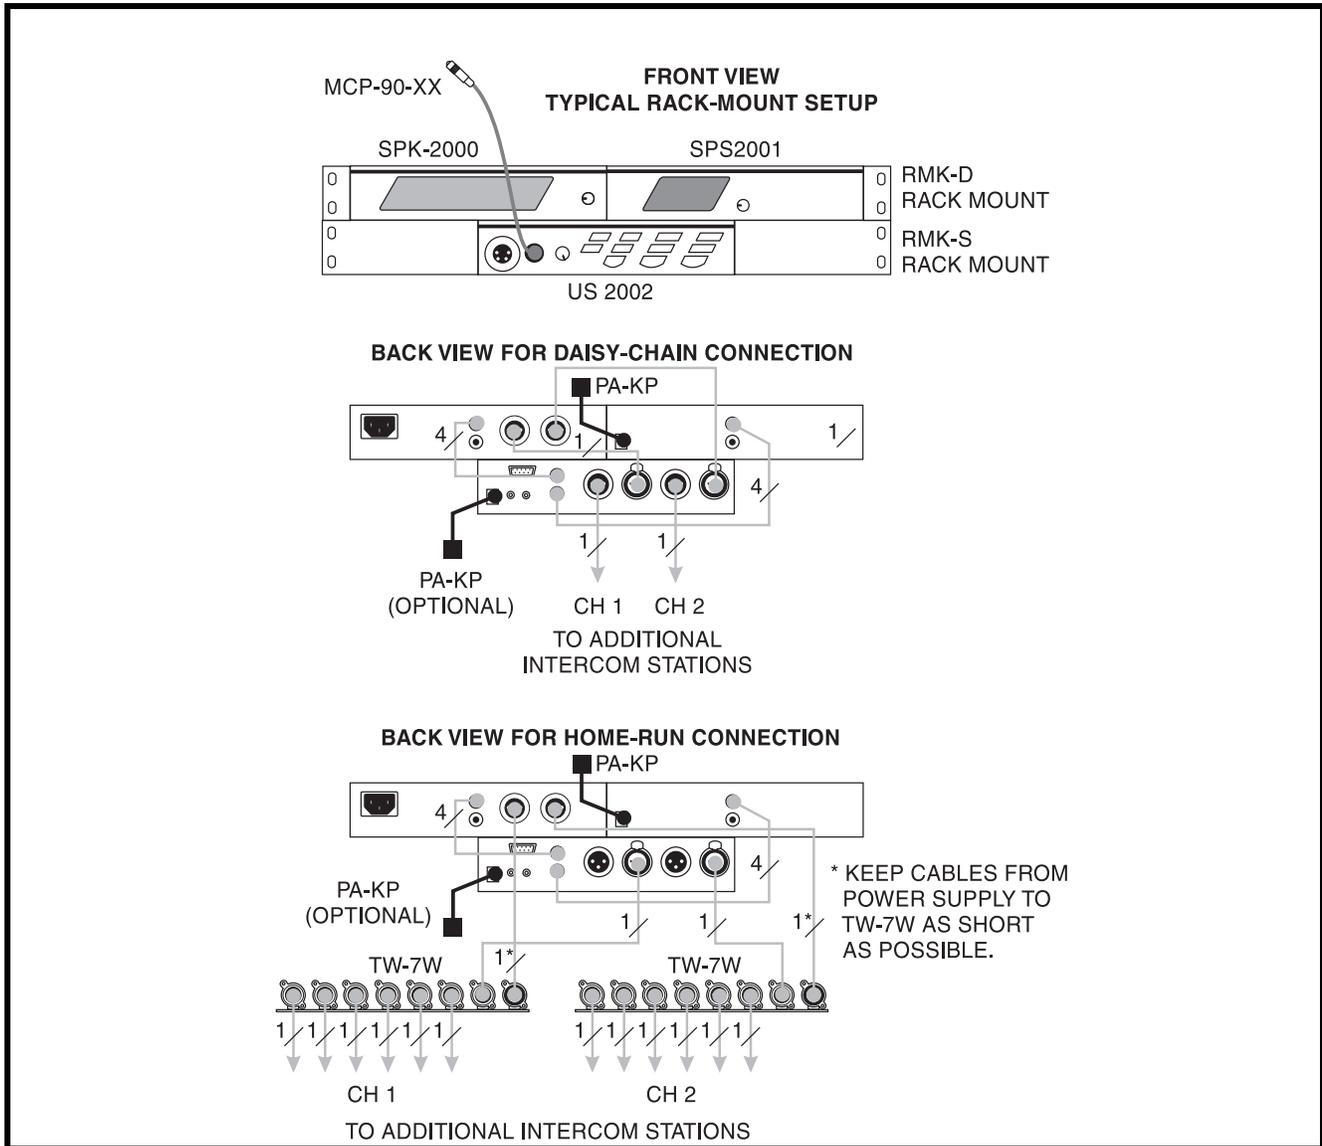

FIGURE 5. US-2002 Binaural Master Speaker Station Configuration with 1 Power Supply.
The configuration, shown in Figure 5, is suitable for smaller intercom systems when you want to operate the US-2002 as a master speaker station, with a separate speaker for each intercom channel. Make sure the US-2002 internal dip switches are set for binaural speaker operation as described on page 10. Also, set the SPS2001 Combine/Isolate switch to the Isolate position. With this setting, the two (2) intercom channels are completely separated. The amplified speaker in the SPS2001 is used as the speaker output for channel 1, and the SPK2000 is used for channel 2. The PA-KP local power supply is optional. When a PA-KP is connected, the US-2002 automatically disconnects from system power supplied by the SPS2001. Since the US-2002 is not drawing power from the intercom system, more system power is available for additional belt packs, etc.